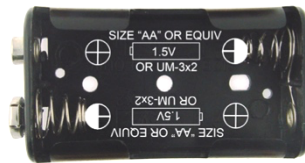

Figure 2-3. Battery Cartridge for Low Profile Battery Pack
4. The required polarity for the battery is illustrated on the inside of the cartridge module. Insert the replacement battery into each battery cartridge module (Figure 2-3)